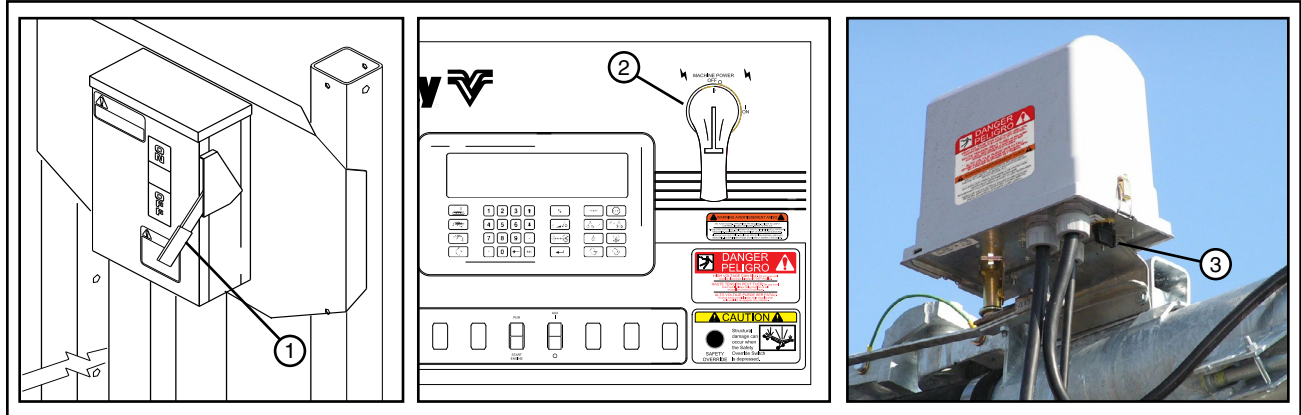

Figure 37-1 1. Main Service Disconnect Switch
- Main Service Disconnect Switch from public power to the control panel. See Figure 37-1.
- Control Panel Main Disconnect Switch. See Figure 37-1.
- Any Tower Box Disconnect Switch. See Figure 37-1.